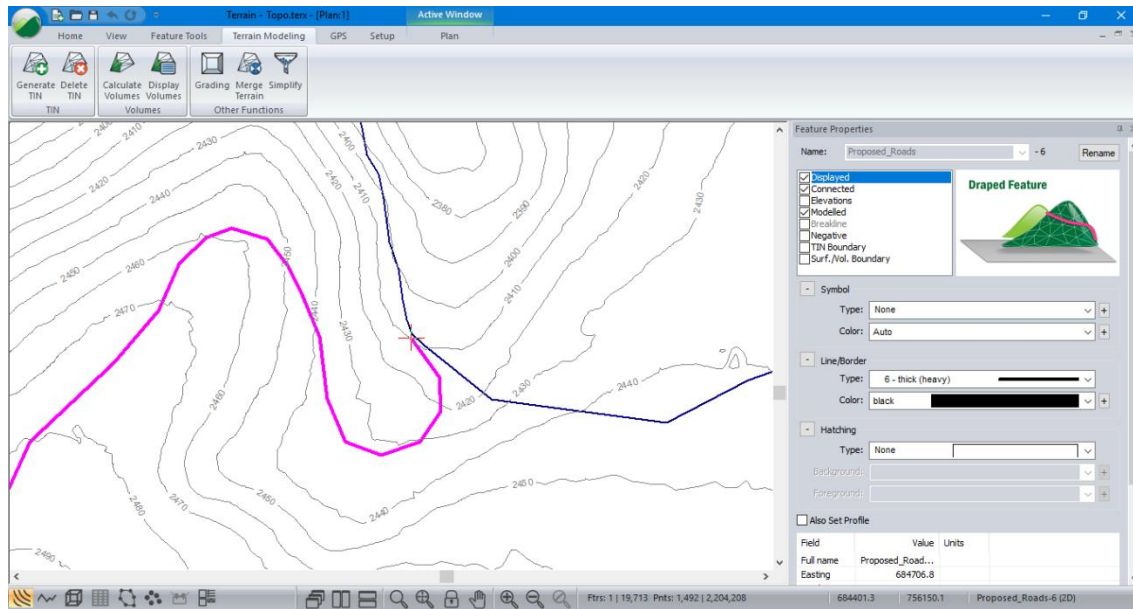

Figure 5-7: TIN From LiDAR
The generated TIN model should look like Figure 5-7 (we’ve zoomed  in a bit and set the line thickness heavier to make it more visible).
16. Using your mouse or by *Home | Select | By Name*, select the **Proposed_Roads-6** feature as in Figure 5-7 above.
17. Use *Plan | Previous Point* to navigate to the start of the **Proposed_Roads-6** feature as in Figure 5-7 above.